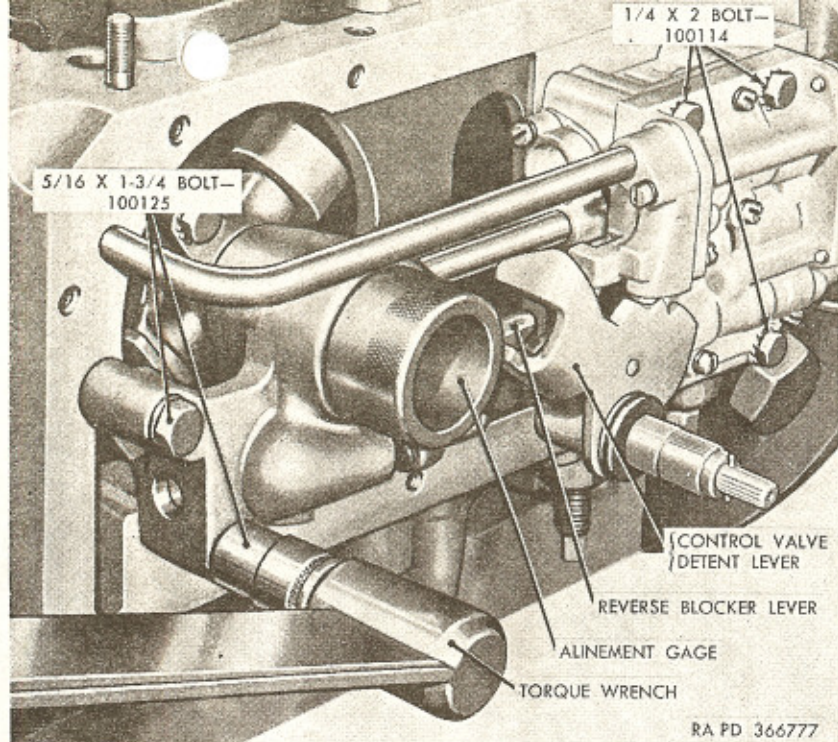

Figure 207. Aiming reverse blocker bracket to governor using gage—A7950067.
d. Position transmission control valve assembly over three governor oil delivery lines and the reverse clutch oil pipe. Make sure control valve detent lever engages reverse blocker lever (fig. 207).
h. Position alignment gage—A7950067 (fig. 207) on governor tower and into reverse blocker bracket assembly.
i. With alignment gage in place, tighten two bolts attaching rear oil pump and governor to transmission case to 15 to 18 pound-feet torque. Tighten two bolts attaching reverse blocker bracket to transmission case to 10 to 13 pound-feet torque (fig. 207).